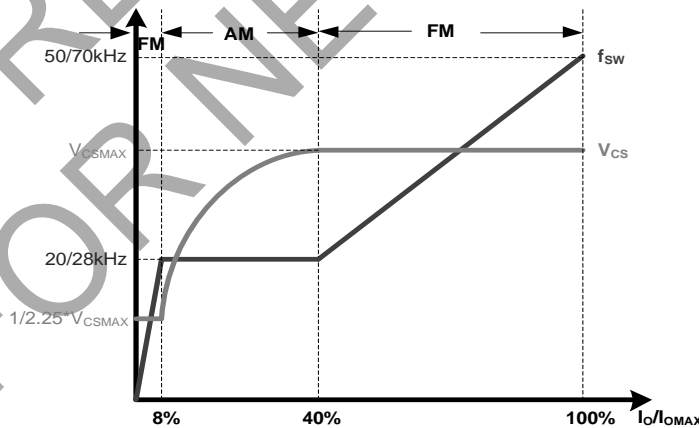

Figure 4. Segment Peak Current and Operating Frequency at CV Mode
In order to avoid audible noise issue, AP3987CT uses 3-segment primary peak current control method at Constant Voltage (CV) mode, the current sense threshold voltages are multiple segments with different loading, as shown in Figure 4, which are V_{CS_H} for high load, varied V_{CS_M} for medium load and V_{CS_L} for light load. In no load and ultra light-load condition (NL mode), the current reference is also V_{CS_L} . But the operation in NL mode is different, which will be described in next section.